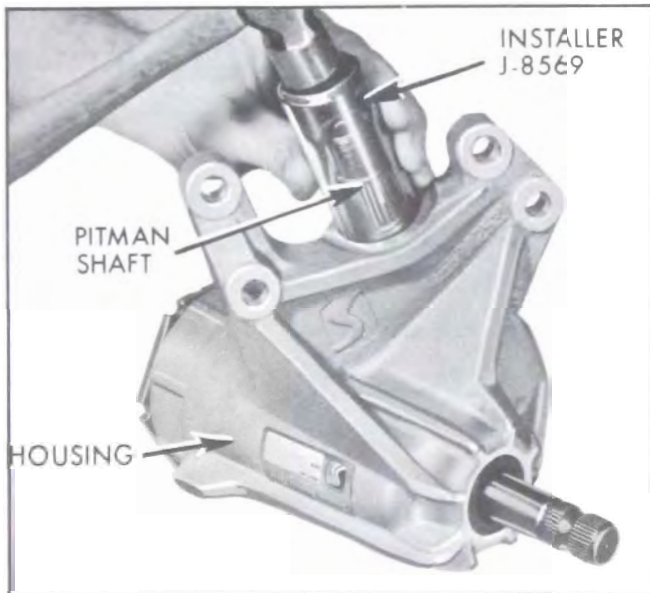

Figure 8-20—Installing Pitman Shaft Seal
8. To protect pitman shaft seal from damage, cover shaft splines with masking tape. Slide new seal into place and seat against shoulder in housing using Installer J-8569. See Figure 8-20.